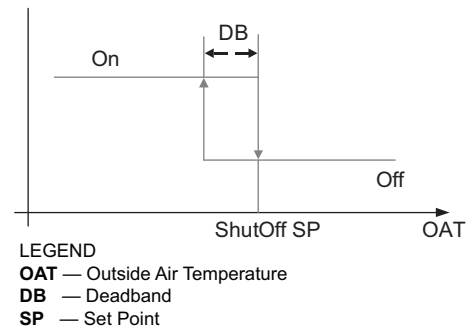

Fig. 68 — Hysteresis Settings
Hysteresis setting (DB) defaults to 2°F (–17°C). See Fig. 68.